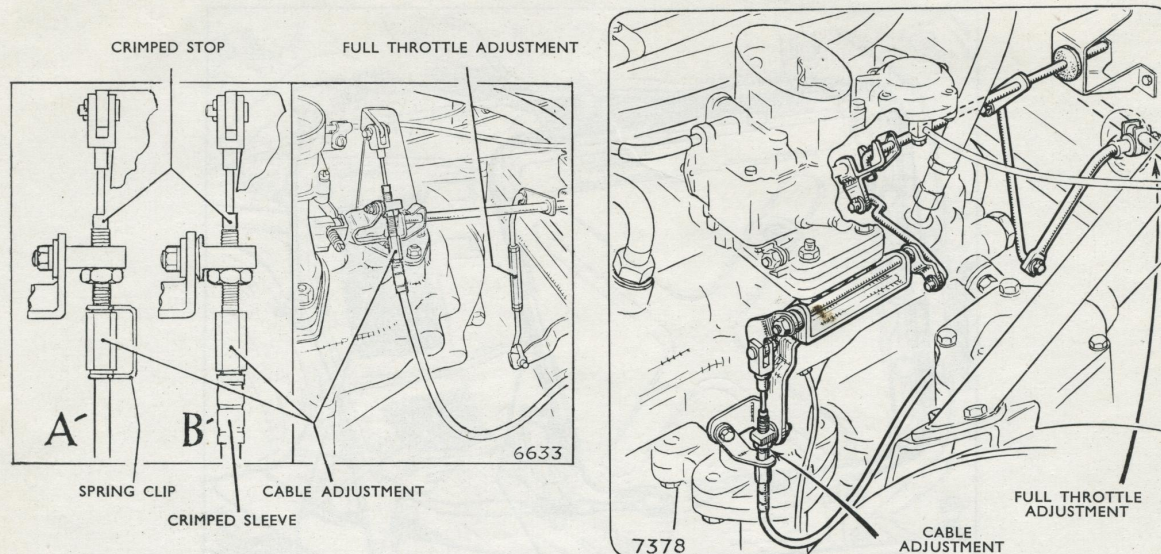

Fig. 6. Downshift valve cable adjustment—views A and B show early and later cables
DOWNSHIFT VALVE CABLE (see Figs. 6 to 10)
Cable differences are shown in the illustration A and B of Fig 6.
adjustment, to prevent the possibility of the outer cable coming out of its adjustment. This clip must always be used with this cable abutment, and is shown fitted correctly, in the illustration A (Fig. 6).
The later downshift valve cable has a larger outside diameter and, due to its increased stiffness, does not require the spring wire clip used on the early cable. It is shown in the illustration B of Fig. 6, and may be recognised by the crimped steel sleeve at its upper end, and the thin circular end on the cable mounting extension that is attached to the carburettor lever.
2. Stop the engine (for safety reasons). Adjust the outer cable so that the stop just contacts the abutment as shown in Fig. 6.
500 to 1,000, line pressure should rise by 15-20 p.s.i. (1.05—1.40 kg/cm²). If rise is less than 15 p.s.i. (1.05 kg/cm²), the effective length of the outer cable should be increased by means of the adjuster shown in Fig. 6. Conversely, if rise is more than 20 p.s.i. (1.40 kg/cm²), the effective length of the outer cable should be decreased.
The adjustment, shown in Fig. 6, should be set so that full throttle is obtained when the accelerator pedal is depressed to within 1 in. (25 mm.) of the floor covering. This ensures that the downshift valve cam passes over the "hard spot" and comes to the position shown in Fig. 10.